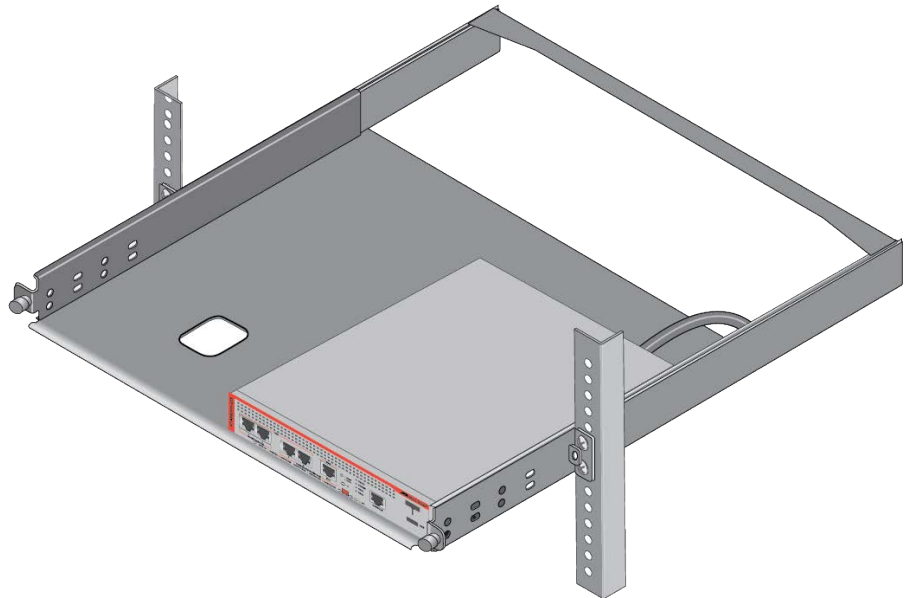

Figure 40. Placing the Router in the RKMT-J15 Equipment Rack Tray
7. Place the router in the left or right side of the tray, with its front panel facing the front of the tray. Route the power cord out the back of the tray. If you are installing only one router, you may install it on either the left or right side. Refer to Figure 40.